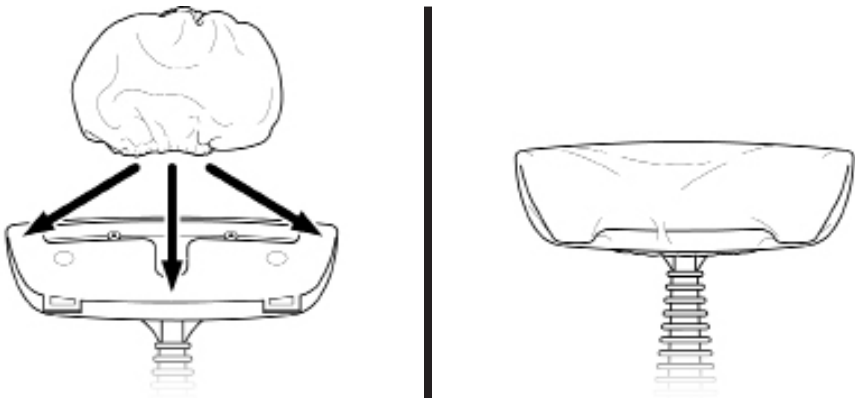

FIGURE 5
1. Simply stretch Cloth Cover around Wide Nozzle (FIGURE 5). Cloth Cover should fit snugly enough to stay in place while steaming.